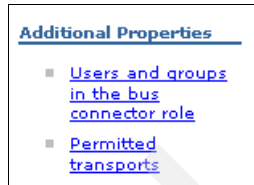

Figure A-90 Navigating to Users and groups in the bus connector role for WebSphere Process Server bus
g. Navigate back to the Disabled or Enabled link of the current bus. Under Additional Properties, click **Users and groups in the bus connector role** (Figure A-90).